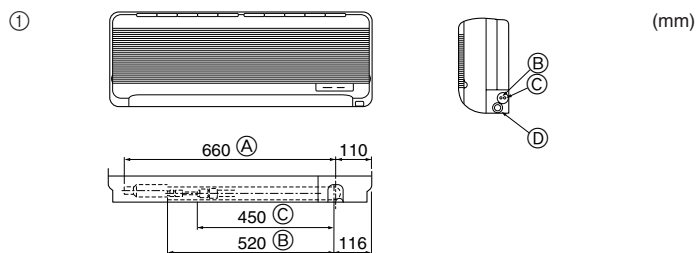
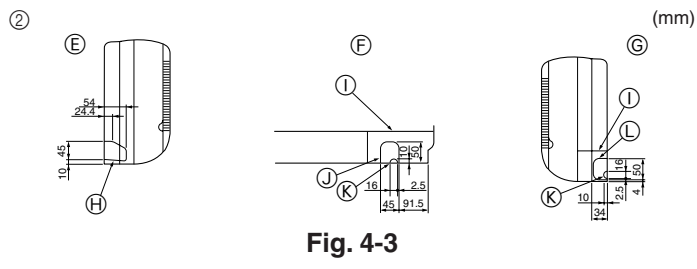

Fig. 4-2
Fig. 4-3
① Position of refrigerant and drain piping (Fig. 4-2)
- (A) Total length of flexible hose
- (B) Liquid pipe
- (C) Gas pipe
- (D) Drain hose
② Determine the position of the knockout holes on the unit body. (Fig. 4-3)